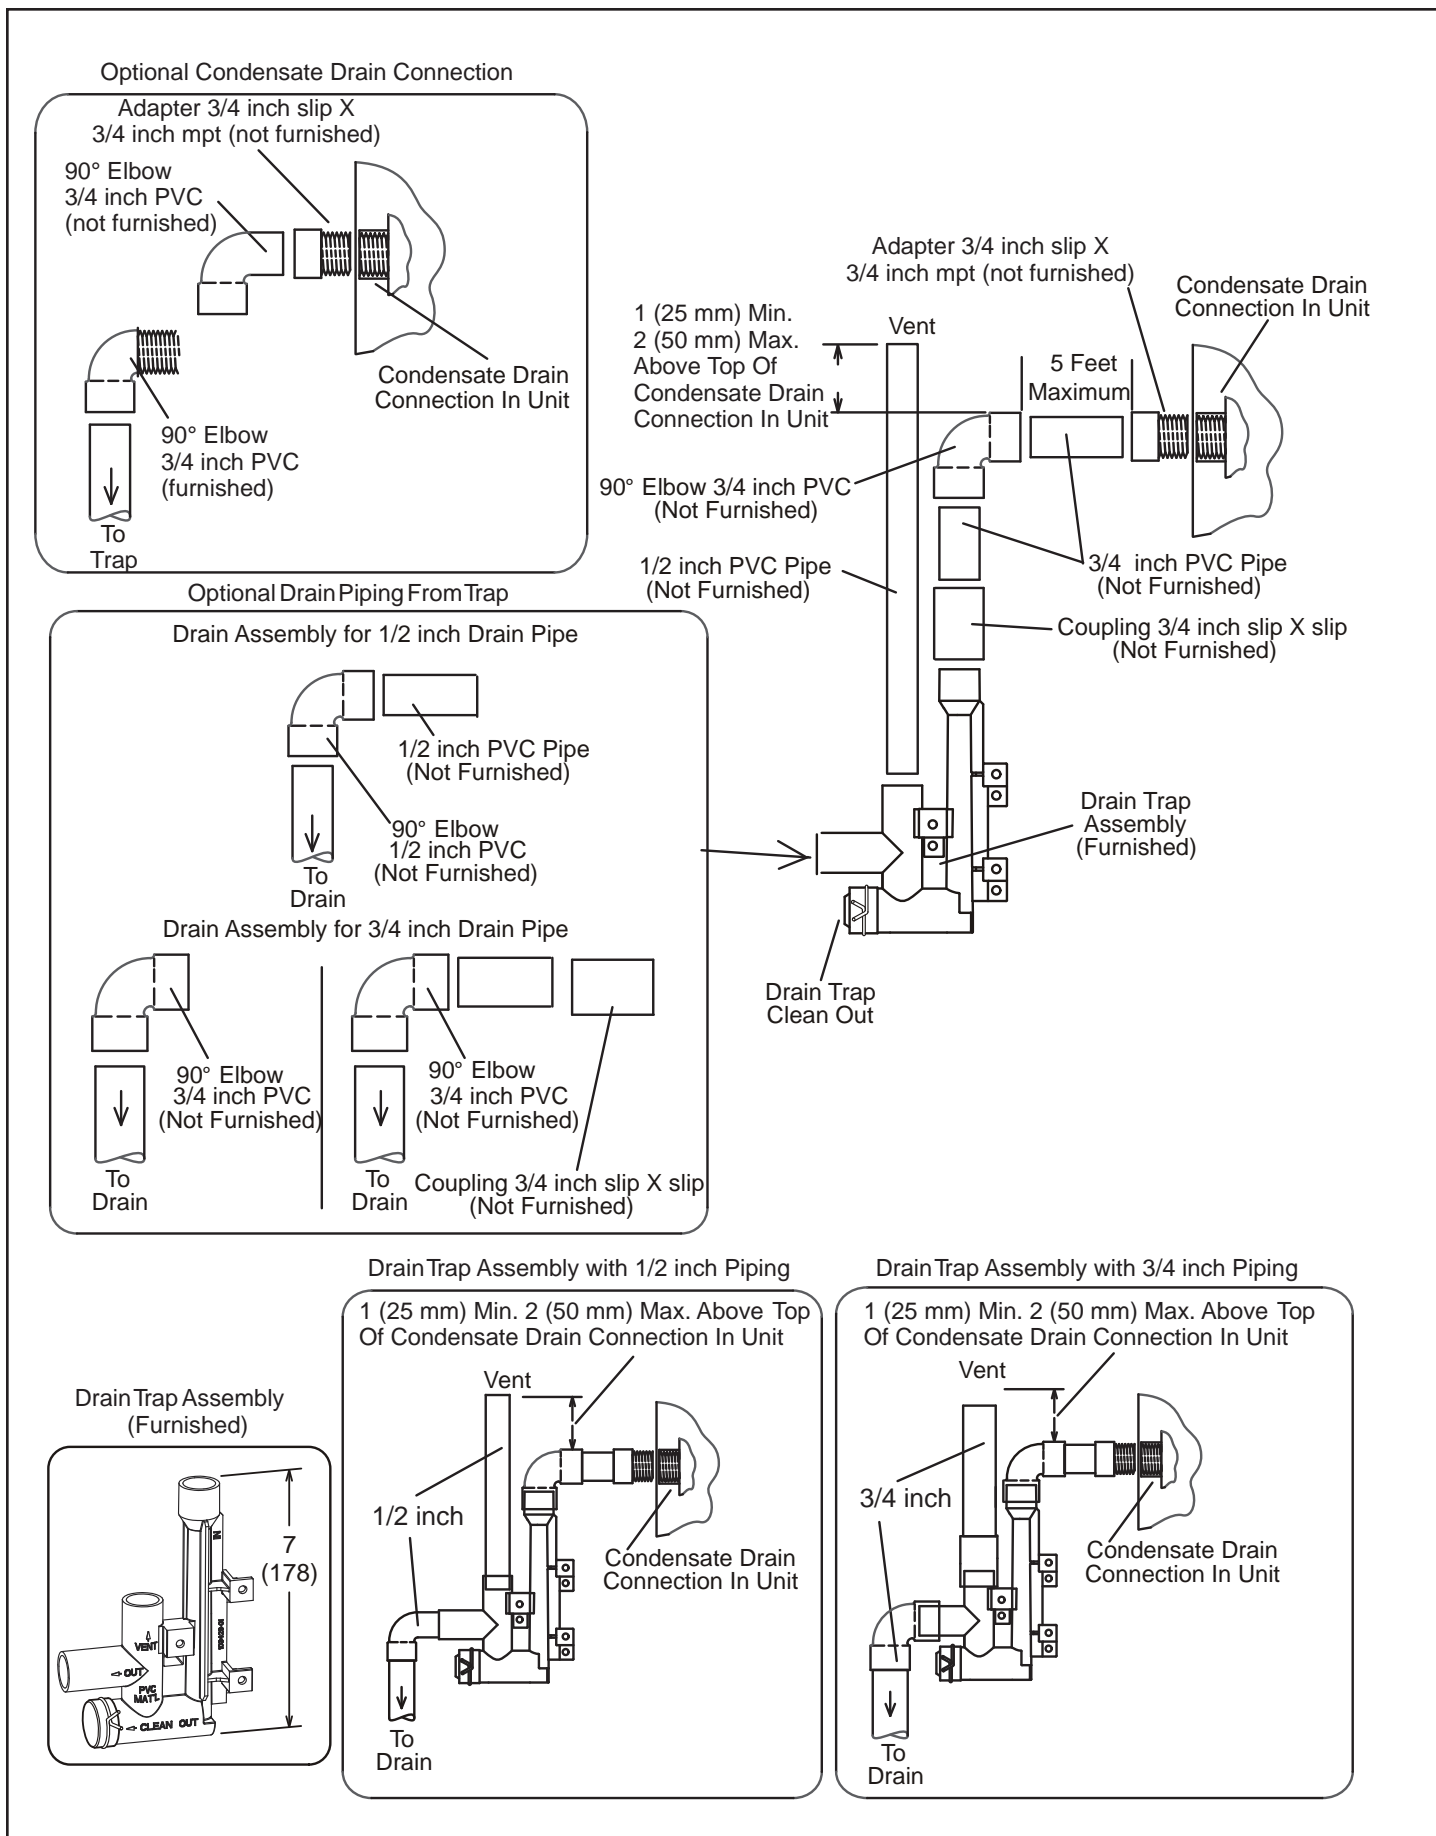

Figure 32. Trap / Drain Assembly Using 1/2" PVC or 3/4" PVC
3. Install the cap over the clean out opening at the base of the trap. Secure with clamp. See Figure 32.
4. Install drain trap using appropriate PVC fittings; glue all joints. Glue the provided drain trap as shown in Figure 32. Route the condensate line to an open drain. Condensate line must maintain a 1/4" downward slope from the furnace to the drain.